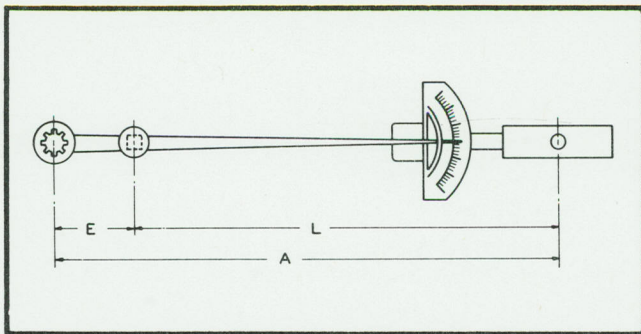

Figure 7-5 Extension of Torque Wrench
- L = Effective length of torque wrench (See Figure 7-5)